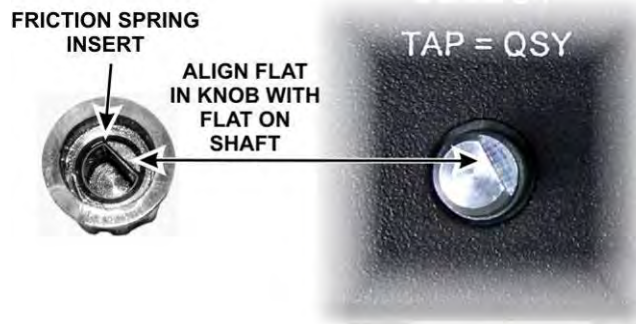

Figure 6. Installing the Knob.
□ Check to ensure the knob has its spring insert in place, then press it onto the shaft. Be sure the flat on the shaft is aligned with the flat surface in the knob (see Figure 6). The control has a built-in switch so do not be surprised to hear a click when you press the knob onto the shaft. The knob will stand above the surface of the front panel to allow room for the knob to move when operating the switch. Also, some side-to-side movement of the knob is normal in a control of this type with a built in switch.
Remove the knob to remove the front panel board. The knob is held by friction (see Figure 6 on page 51).